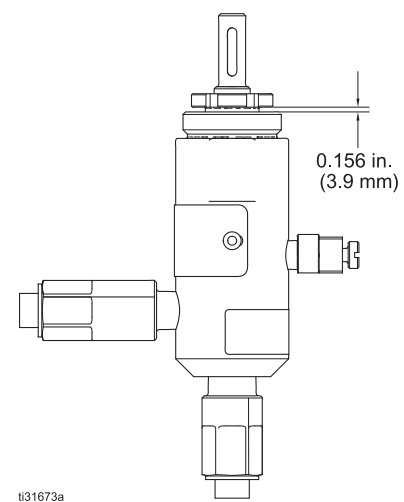

FIG. 8: Tightening the packing nut
4. Reinsert the first bearing (102), packing (103), second bearing (102), packing nut (104), and plunger (105) into the fluid cylinder (101). Tighten packing nut (104) to distance as shown in FIG. 8.